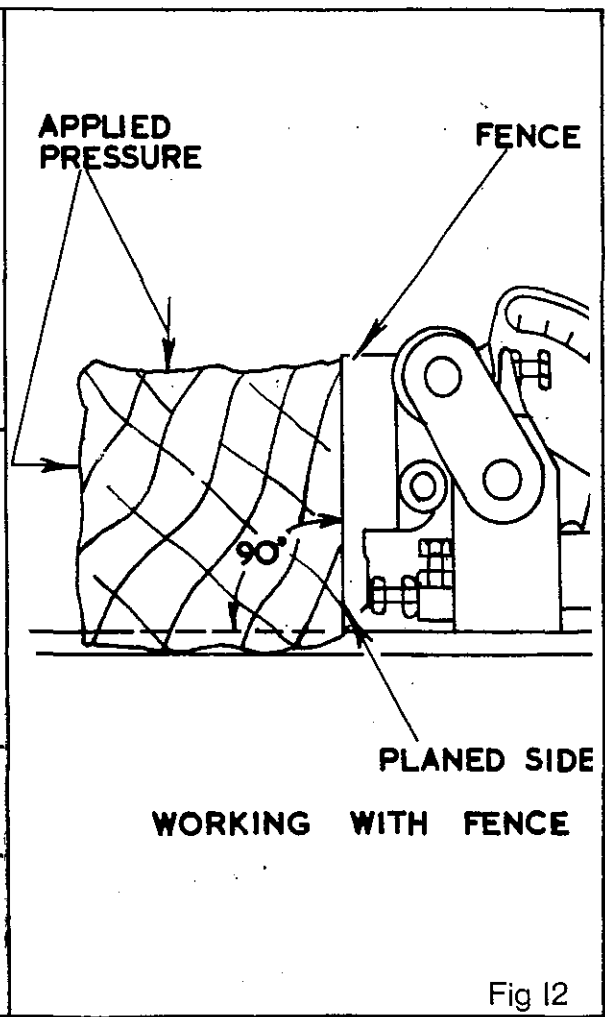

Fig 12
4. When planing four sides of timber, square turn the timber anti-clockwise after each cut, so that there will always be a machined face next to the fence as in Fig. 12. The fence locates accurately at  $90^{\circ}$ .